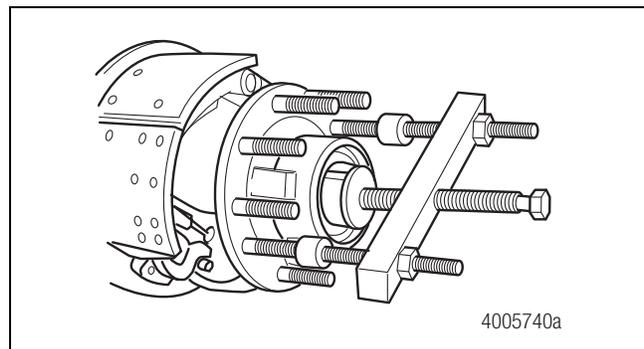

Figure 3.6
- **If the hub is difficult to remove because the seal is stuck on the spindle:** Use a mechanical puller to remove the hub. Figure 3.6.